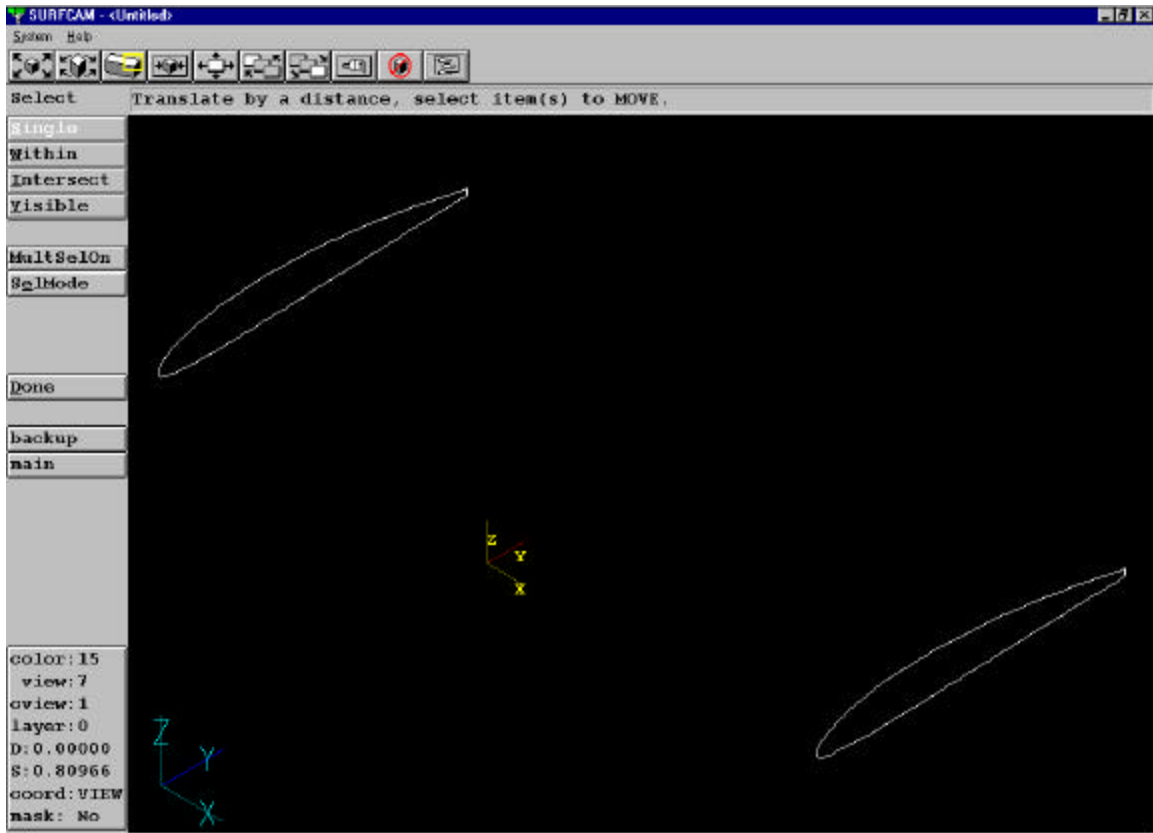

Figure 11: Airfoils positioned with origin at mid-span
- 4.) The airfoils will translate left 5 inches, making the origin of the drawing mid-span of the wing. Your screen should now look like figure 11.